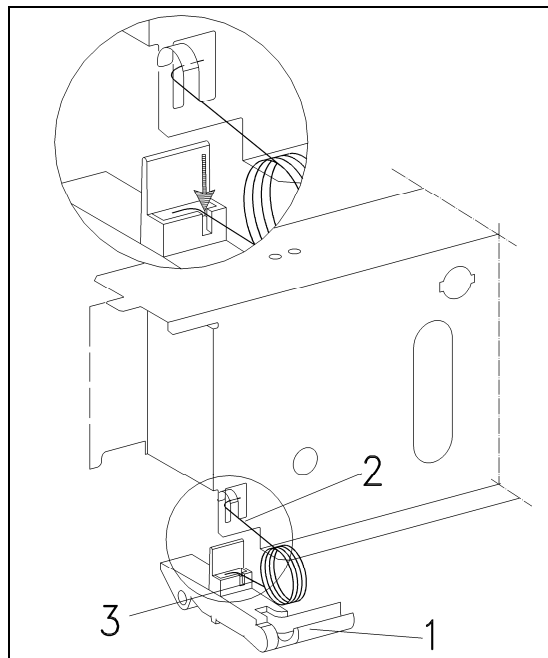

Figure 011-3: Door Lock Torsion Spring
4. Push the door latch up and hold (Figure 011-3, Item 1).
5. Unhook the top arm of the torsion spring by pressing forward and down (Figure 011-3, Item 2).
Note: H 4082/4/6/8 BM ovens do not have the support plate shown in Figure 011-3.
When installing the torsion spring, **do not** push the latch upward. Insert the bottom arm of the torsion spring into the notch on the latch (Figure 011-3, Item 3).